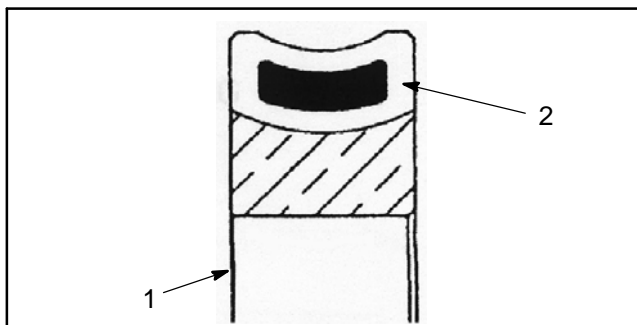

Figure 20
B. Install both output caps (items 6 and 25) (o-rings and seals not installed on caps) to gearbox housing. Torque cap screws 8 ft-lb (10.8 N-m) while checking for binding of shaft. If shaft binds as screws are tightened, add additional shims.
D. Check gear contact by applying blueing compound to worm gear (item 3) teeth. Turn worm (input) shaft while putting a slight load on output shaft. Inspect contact on gear by viewing through drain plug opening in gear housing. Worm contact should be centered on both sides of the gear (Fig. 20). To adjust gear contact while maintaining shaft end play, move shim(s) from one side of the gear housing to the other.